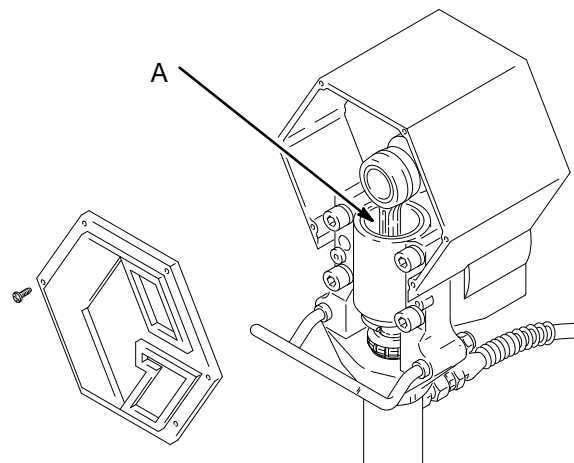
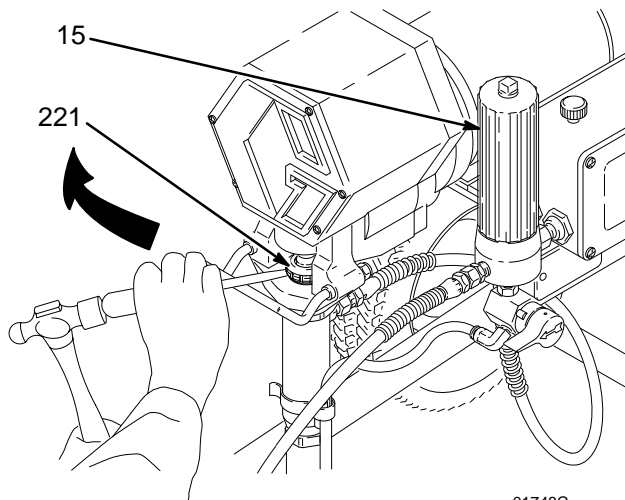

Fig. 4
Fig. 5
1. **Keep the packing nut/wet-cup (221) 1/3 full of TSL (Throat Seal Liquid, supplied)** at all times to help prevent fluid buildup on the piston rod and premature wear of packings. Follow the **Pressure Relief Procedure**, page 11, before adding TSL.
2. **Keep the packing nut/wet-cup just tight enough to stop leakage.** See Fig. 5. Overtightening causes binding and excessive packing wear. Follow the **Pressure Relief Procedure**, page 11. Then use a round punch or brass rod and light hammer to adjust the nut.
3. **Clean the fluid filter (15) often**, and whenever the sprayer is stored. Follow the **Pressure Relief Procedure**, page 11, before cleaning the filter.
4. **Lubricate the bearing housing (A) after every 100 hours of operation.** Follow the **Pressure Relief Procedure**, page 11. Remove the front cover. Fill the bearing housing cavity with SAE 10 non-detergent oil. See Fig. 4.